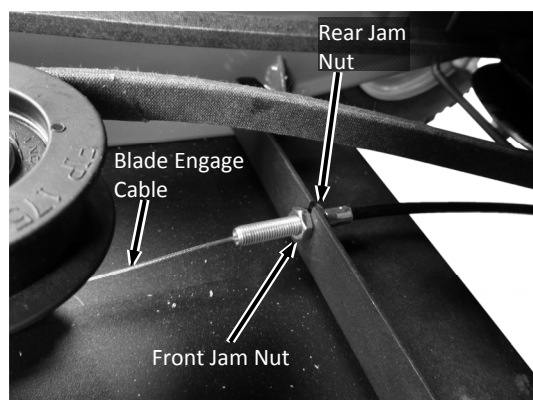

Figure 8
9. Adjusting the Blade Engage Cable: To Loosen the Cable – loosen the rear Jam Nut slightly and tighten the front Jam Nut using a 1/2" Wrench (Figure 8). To Tighten the Cable – loosen the front Jam Nut slightly and tighten the rear Jam Nut using a 1/2" Wrench (Figure 8).